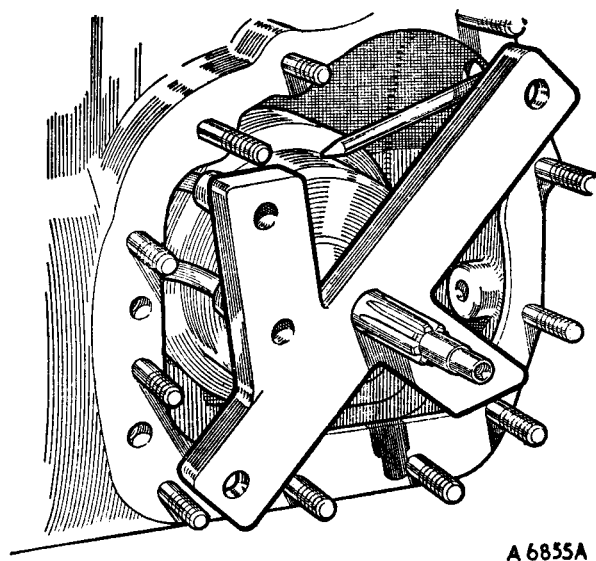

Fig. Fa.20
40. Fit a new joint washer to the transmission casing. Fit Service tool 19G 1094 and align the pipes (Fig. Fa.20) and remove the tool.